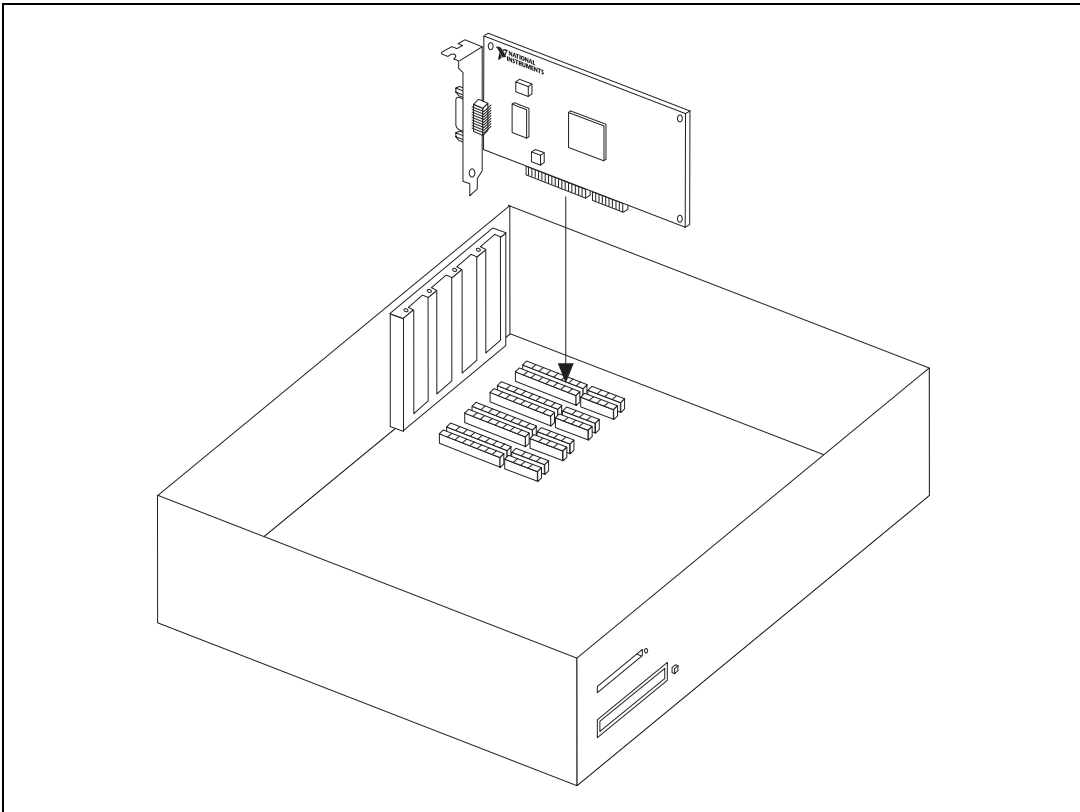

Figure 2. Installing the PCI-CAN
5. Insert the CAN interface into the slot with the CAN connector(s) sticking out of the opening on the back panel. It might be a tight fit, but do not force the interface into place. Figure 2 shows how to install the PCI-CAN into a PCI expansion slot.